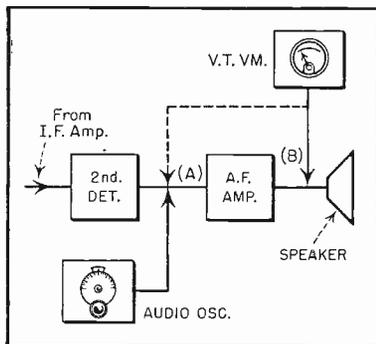
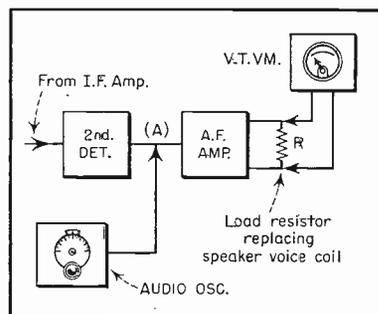

Fig. 3.
Fig. 4.
The block diagrams in Figures 3 to 8 inclusive show the connections of the test instruments to the various stages in a conventional a. m. superheterodyne receiver. These are the arrangements for making the ten tests listed earlier in this article under **Recommended Test Program**. The method of making the separate tests is explained below.
1. **Audio Gain and Sensitivity.** Set up the audio oscillator and v. t. voltmeter as shown in Figure 3. Connect the v. t. voltmeter to point B; that is, across the speaker voice coil. Connect the oscillator to the input of the audio channel. If there is more than one stage in the audio channel, connect the oscillator to the input of the **first** a. f. stage. Set the oscillator to 1000 cycles, and advance the oscillator output attenuator until the loudest **undistorted** signal is obtained in the speaker. Record the meter reading at this point as E_1 . Transfer the meter to point A at the input of the audio channel and record the voltage at this point as E_2 . To determine the amplifier gain, divide E_1 by E_2 : E_1/E_2 . Repeat the test at several other frequencies.
To determine audio sensitivity, use the arrangement shown in Figure 4. Increase the oscillator output until the rated output wattage is developed across load resistor R. (Watts can be de-
2. **Audio Power Output.** First, use the arrangement shown in Figure 3 to determine the value of input signal voltage which will give the loudest undistorted output signal. Then, without disturbing the oscillator or amplifier controls, replace the speaker with the load resistor (see Figure 4) and determine the audio output watts in the manner explained in the foregoing section **Audio Gain and Sensitivity.**
3. **Fidelity of Audio Channel.** Use the arrangement shown in Figure 4. Set the output of the audio oscillator to give rated amplifier power output at 1000 cycles. Note the voltmeter reading. Now, change the oscillator frequency in small steps from 1000 cycles down to 50, and from 1000 cycles up to 10,000, keeping the oscillator output voltage constant at all times (check the oscillator voltage by switching the meter temporarily to point A each time the frequency is changed). A high-fidelity amplifier will show very little output voltage change from the 1000-cycle voltage level as the frequency is varied from 100 to 10,000 cycles. Pronounced dips or peaks in the output voltage at various frequencies indicate poor frequency response which can be
10. **Noise or Hum Level.** Use the arrangement shown in Figure 3, except **do not use the audio oscillator in this test.** Connect the v. t. voltmeter to point B; that is, across the speaker voice coil. Short-circuit the antenna and ground terminals of the receiver to prevent pickup of signals or static. Note the voltmeter deflection which is due entirely to hum or noise. This signal voltage may be identified (that is, whether it is noise or hum or both) easily by listening to the speaker output. Repeat at each setting of the tone control. A significant figure is the ratio of this hum or noise voltage to the voltmeter deflection at full signal output.